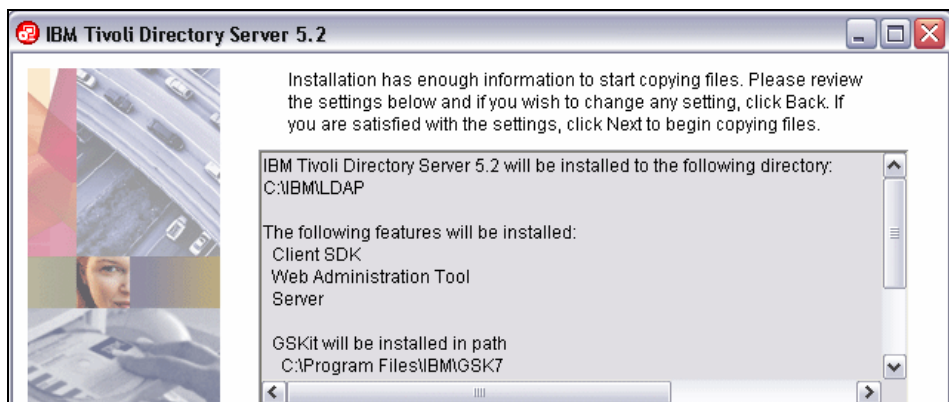

Figure A-41 Tivoli Directory Server: Summary
- ▶ The summary window appears with all the installation details (Figure A-41).